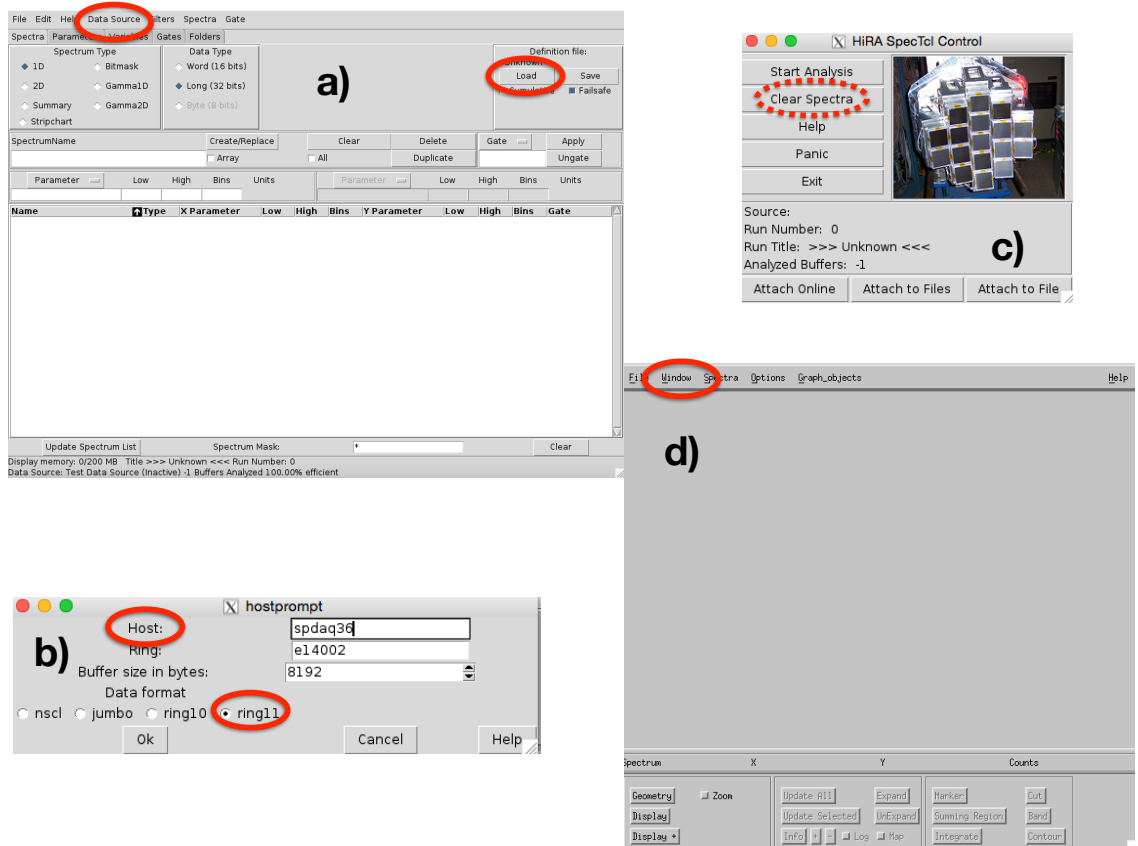

Figure 3: SpectCl windows.
- `./Spectc1`, the windows as displayed in Fig. 3 will appear